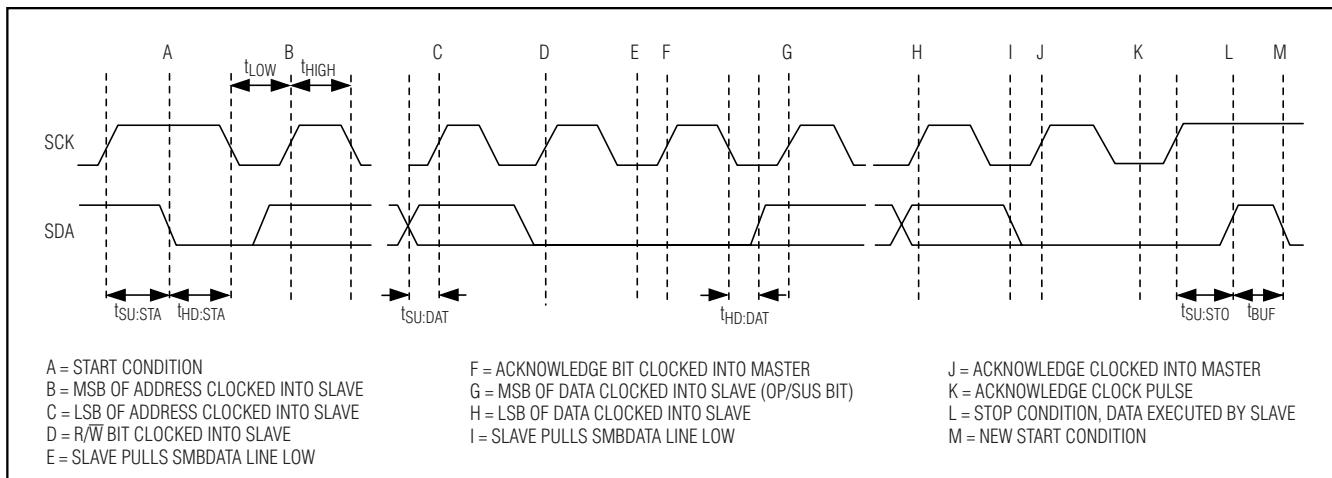

Figure 2. I2C Timing Diagram
An I2C 2-wire serial interface is provided on the MAX1707 to control LED brightness, flash, temperature deration, and RGB ramp rate. The serial interface consists of a serial data line (SDA) and a serial clock line (SCK). Standard I2C write-byte commands are used. Figure 2 shows a timing diagram for the I2C protocol. The MAX1707 is a slave-only device, relying upon a master to generate a clock signal. The master (typically a microprocessor) initiates data transfer on the bus and
generates SCK to permit data transfer. A master device communicates to the MAX1707 by transmitting the proper 8-bit address (0x9A) followed by the 8-bit control byte. Each 8-bit control byte consists of a 3-bit command code and 5 bits of data (see Table 1). Each transmit sequence is framed by a START (A) condition and a STOP (L) condition (see Figure 2). Each word transmitted over the bus is 8 bits long and is always followed by an acknowledge clock pulse.